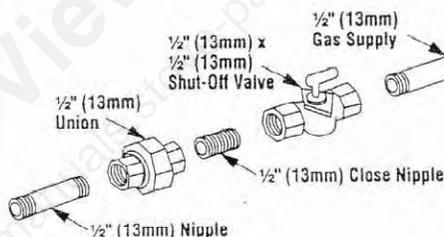

Figure 12
**Step 8. Rigid Pipe Connection Procedure –** Extend previously installed 1/2" (13 mm) NPT gas supply pipe to the gas control valve. Figures 12 and 13 illustrate the sequence of connection. Secure all fittings tightly using a wrench and pipe joint compound where necessary.